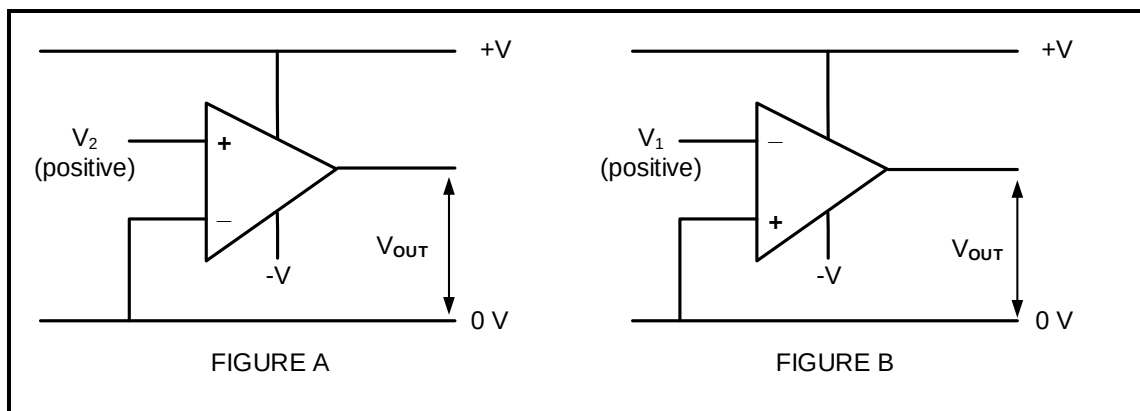

FIGURE 4.1: OPERATIONAL AMPLIFIERS
4.1 Refer to FIGURE 4.1 below and answer the questions that follow.